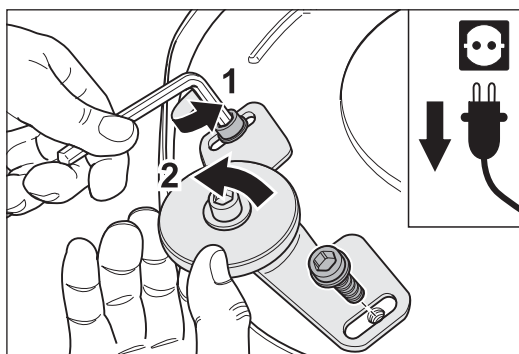

Fig. 30 Remove the screws on the wall-protecting roller bracket (1) and then remove the complete wall-protecting roller (2).
- 2 Remove the two screws with which the wall-protecting roller bracket is fastened to the attachment and then remove the complete wall-protecting roller (fig. 30).